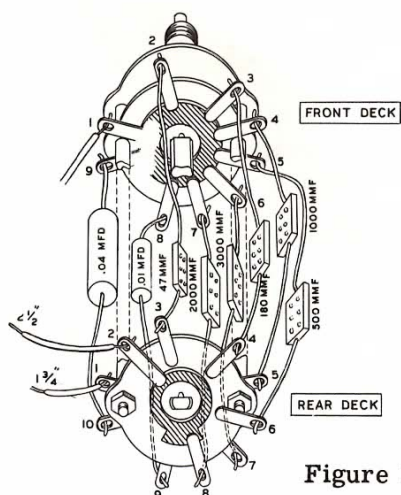
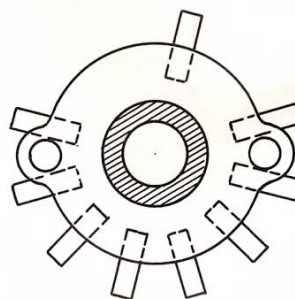

Figure 10
Figure 11
- (✓) Identify the low-frequency cutoff selector switch which has nine contact lugs on the front deck and ten lugs on the rear deck. This switch is shown in Figure 10 with the capacitors installed. Each lug on the front deck, as well as each lug on the rear deck, has been assigned an identifying number. Carefully compare the switch with Figure 10 so that you will have no difficulty in identifying any of the lugs. Remember that any mistakes made in wiring the capacitors to the switch will be quite difficult to correct after the connections have been soldered. The capacitors in the Figure are shown widely separated for clarity. On the actual switch, all leads should be perfectly straight and no longer than necessary to make the connections. Otherwise, it may be difficult to place the completed switch in the chassis. The capacitors should be positioned as shown in Figure 11 like the spokes of a wheel. In addition, they should be approximately centered between the front and rear switch decks.